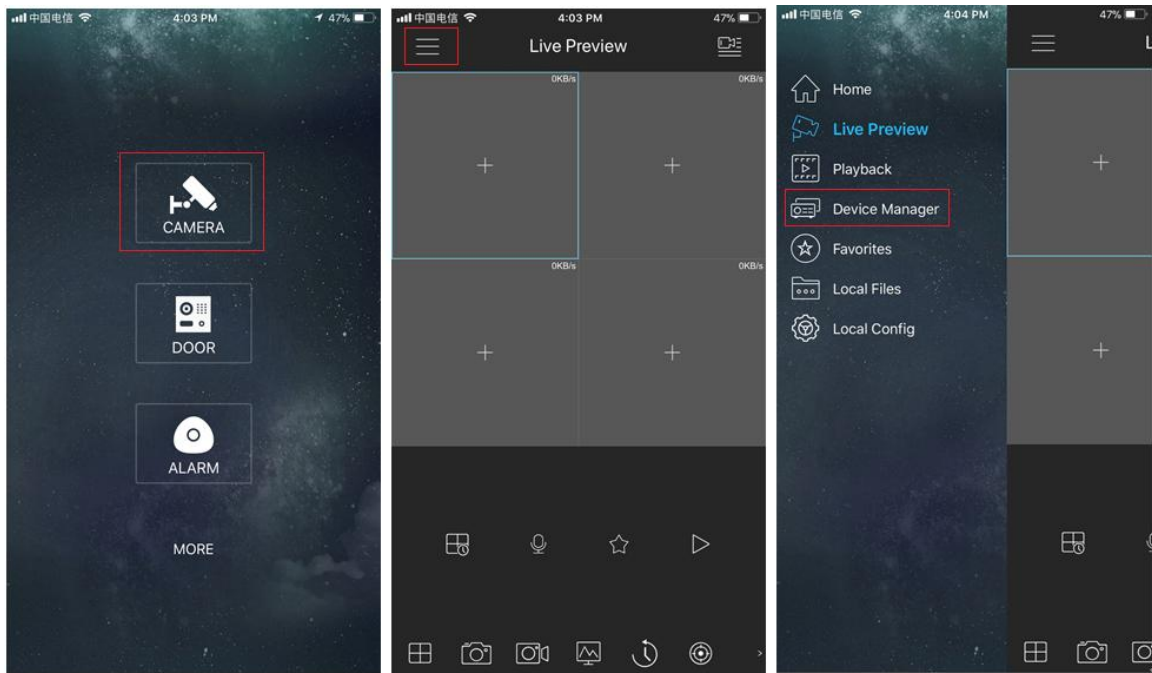

Figure 4-19
- 1) Click  and select Device Manager. See Figure 4-19.